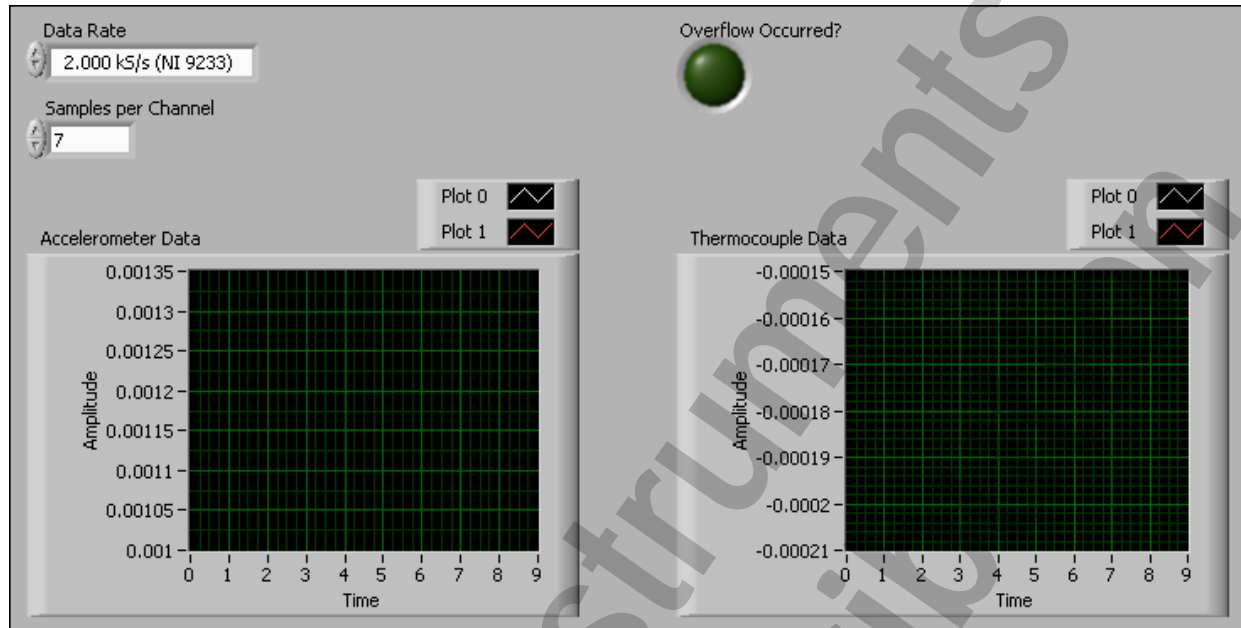

Figure 9-17. RT Host Interleaving Front Panel
14. Modify the front panel so that it matches Figure 9-17. Develop the front panel using the following items: